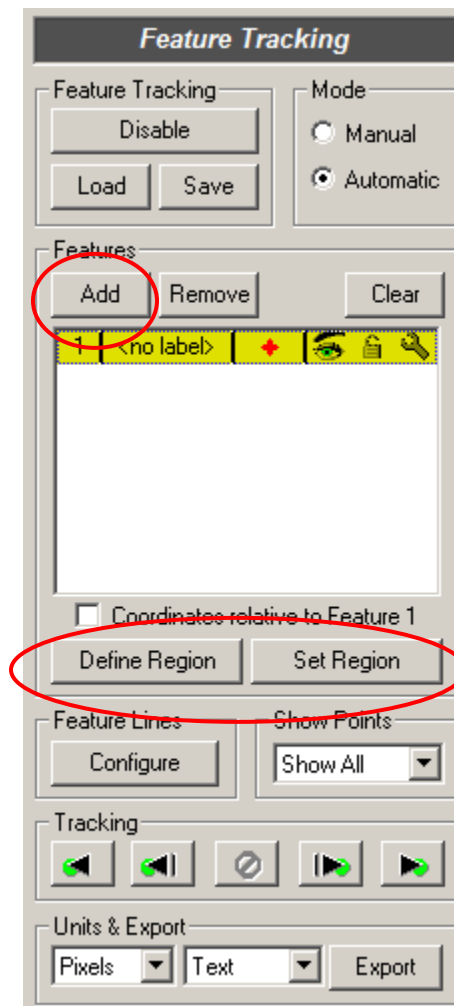

Figure 10. Feature Tracking panel
2. Click **Define Region**. Position the reticle and draw a box around the robot's belt buckle. Click **Set Region** to set the belt buckle as Feature 1. Next, click the **Add** button to add Feature 2. Repeat the previous steps to define and set regions for three features on the robot's body. The Define Region, Set Region, and Add buttons are shown circled in Figure 10.